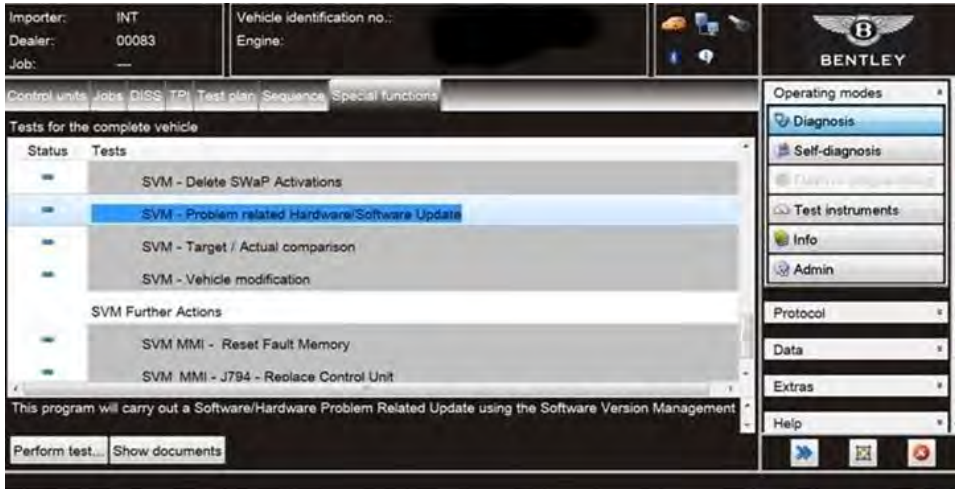

Figure 1
- **Because of the highest transmission stability we recommend the use of the diagnosis interface VAS 6154 (WiFi diagnostic tool) only in the USB operation or the cable-connected VAS 5055 for the reprogramming (updating) of control units. If these units are not available, the diagnosis interface VAS 5054 (A) can also be used in USB mode.**
1. Select and run Guided fault finding. Within the Special functions tab select SVM – Problem related Hardware/Software update, then select Perform test (Figure 1).